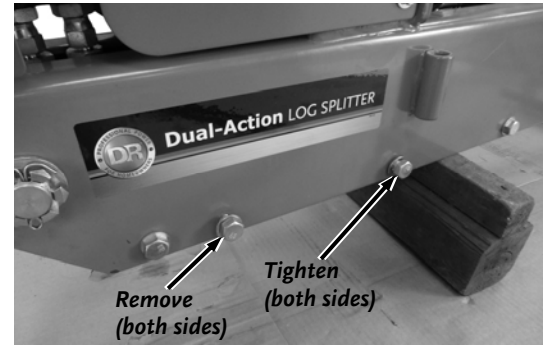

Figure 8
10. Block the front end of the Beam Assembly up to gain access to the hardware and remove and discard the second set of hardware on each side (**Figure 8**). Tighten the third set on each side using a 3/4" Wrench.